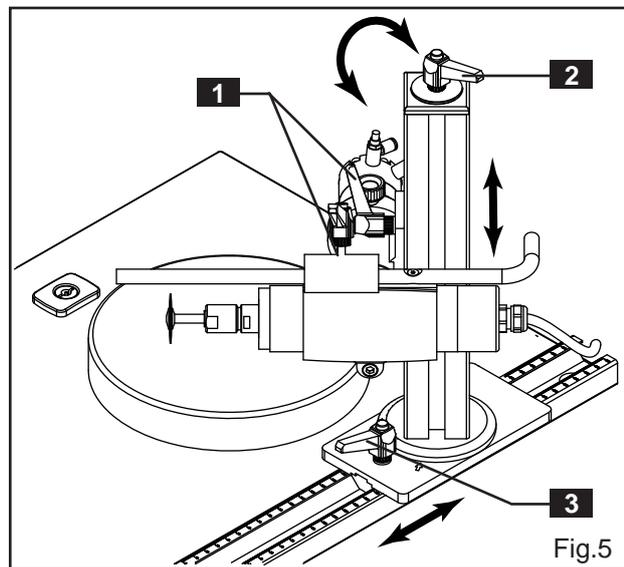

Fig.5
2. Setting up the deburring-unit (Fig.5)